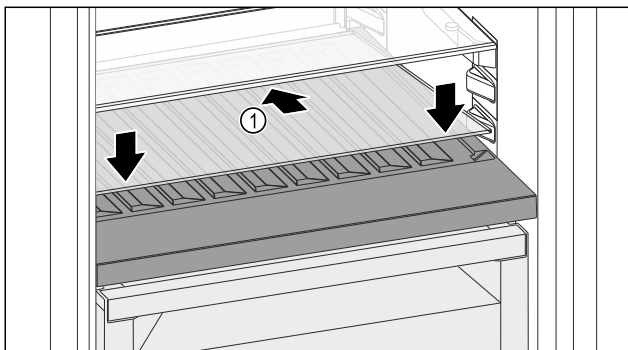

Fig. 80
- ▶ Place the glass shelf Fig. 80 (1) at an angle, sloping it downwards and backwards.
- ▶ Lower the glass shelf Fig. 80 (1) at the front.